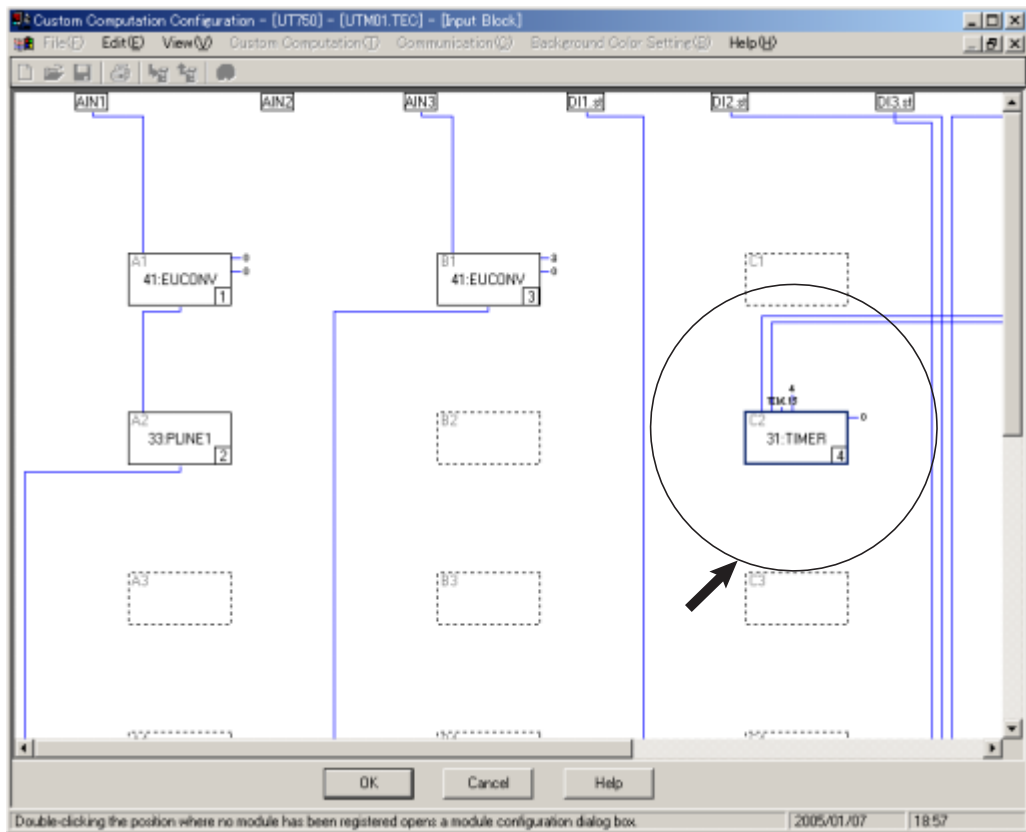

Figure 12.5.12 Example of the [Input Block] Dialog Box (finished view) Where a Four-second Timer Is Implemented
- (1) In the [Input Block] dialog box (Figure 12.5.12), click the registered TIMER module.